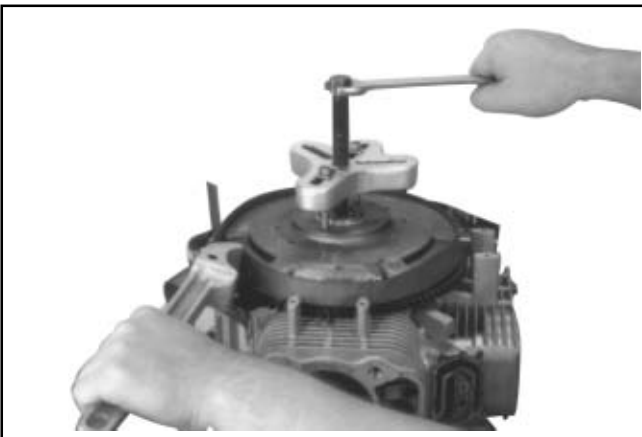

Figure 9-46. Removing Flywheel with a Puller.
3. Use a puller to remove the flywheel from the crankshaft. See Figure 9-46.